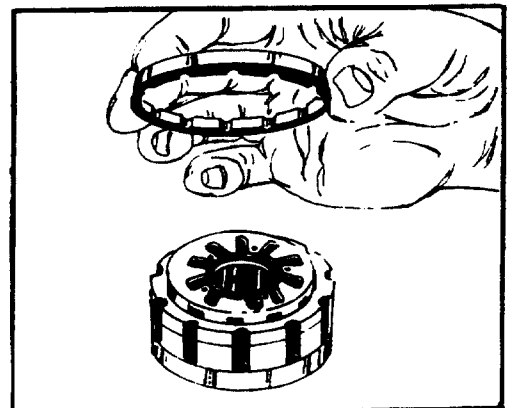

FIGURE 25.
remove commutator ring 30. Remove commutator ring (21). See figure 25. Inspect for cracks, burrs and scoring.